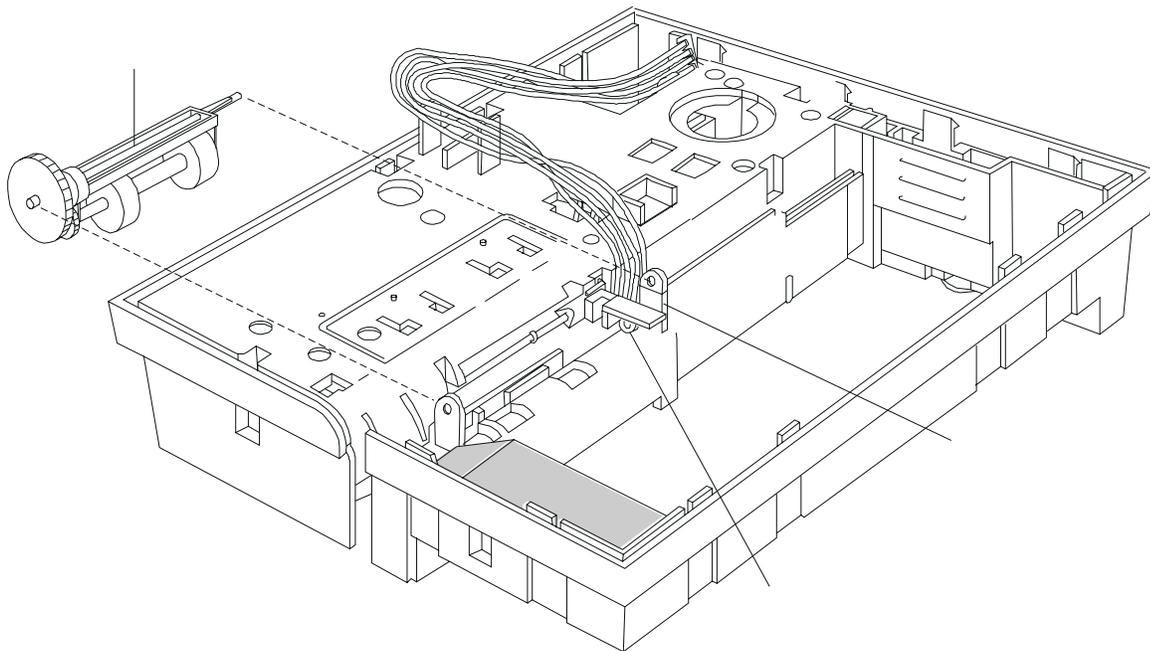

Figure E-15. Part 1. Installing the Toggle Shaft and Document Sensor
- 1 Put the document insert paper sensor (3) into the frame assembly as shown in Figure E-15 and lock the sensor in place with the retainer (2).
- 2 Put the toggle assembly (1) into place with the large gear up and toward the side frame, and the rubber rolls toward the frame as shown.